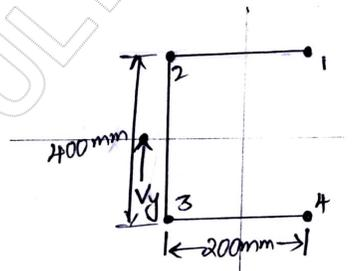

Fig.Q.4(a)
- b. Find the shear flow distribution for the Z-section as shown in Fig.Q.4(b), which is having constant thickness of 2 mm .